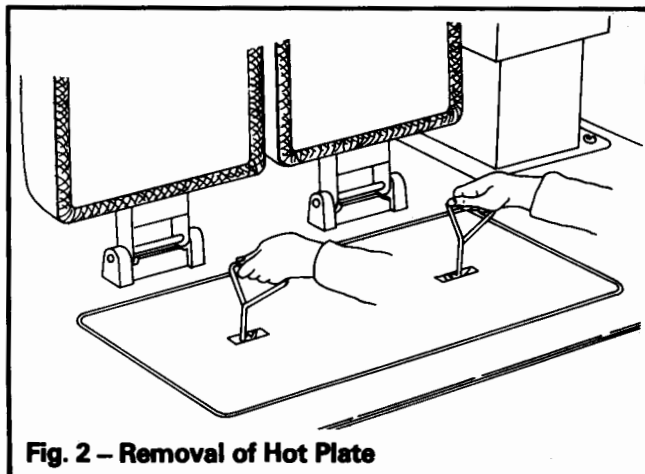

Fig. 2 – Removal of Hot Plate
- Lift out the hotplate via the lifting tools – See Fig. 2